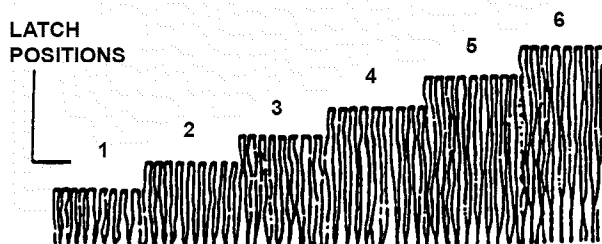

FIGURE 2.8
**3.** Set all wheels at the same cutting height. The highest cutting position is Notch 6. The lowest cutting position is Notch 1. See Figure 2.8.